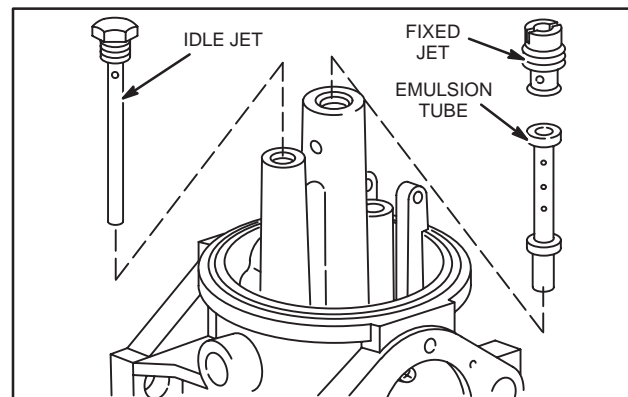

Fig. 17 – Installing Nozzle And Jets
3. Assemble the following parts, Fig. 17: